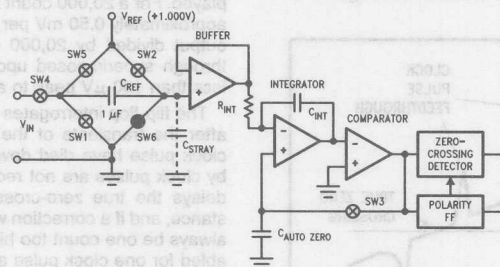

Figure 4C: Phase III + Deintegrate
3. DEINTEGRATE PHASE II (Figures 4C and 4D)